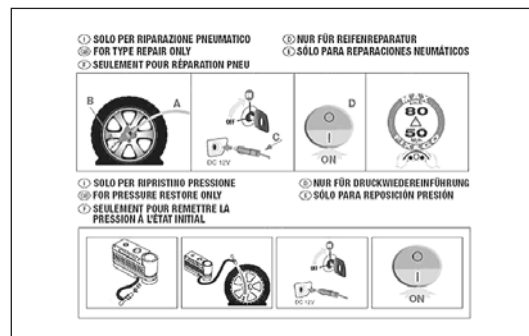

fig. 133
- ☐ instruction brochure (see fig. 133), to be used for prompt and proper use of the quick repair kit and to be then handed to the personnel charged with handling the treated tyre;